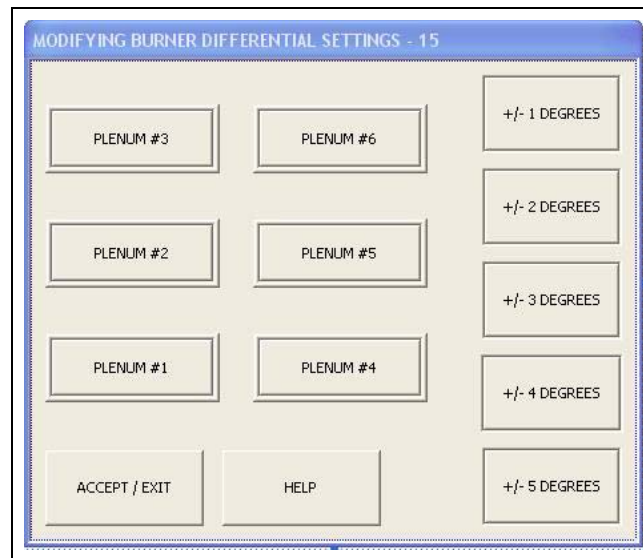

Figure 5M
2. **Differential:** The  Differential button will display the “Modifying Burner Differential Settings” screen. (See Figure 5M.) Adjusting the burner differential settings allows the operator to keep the plenum temperature within a certain range.